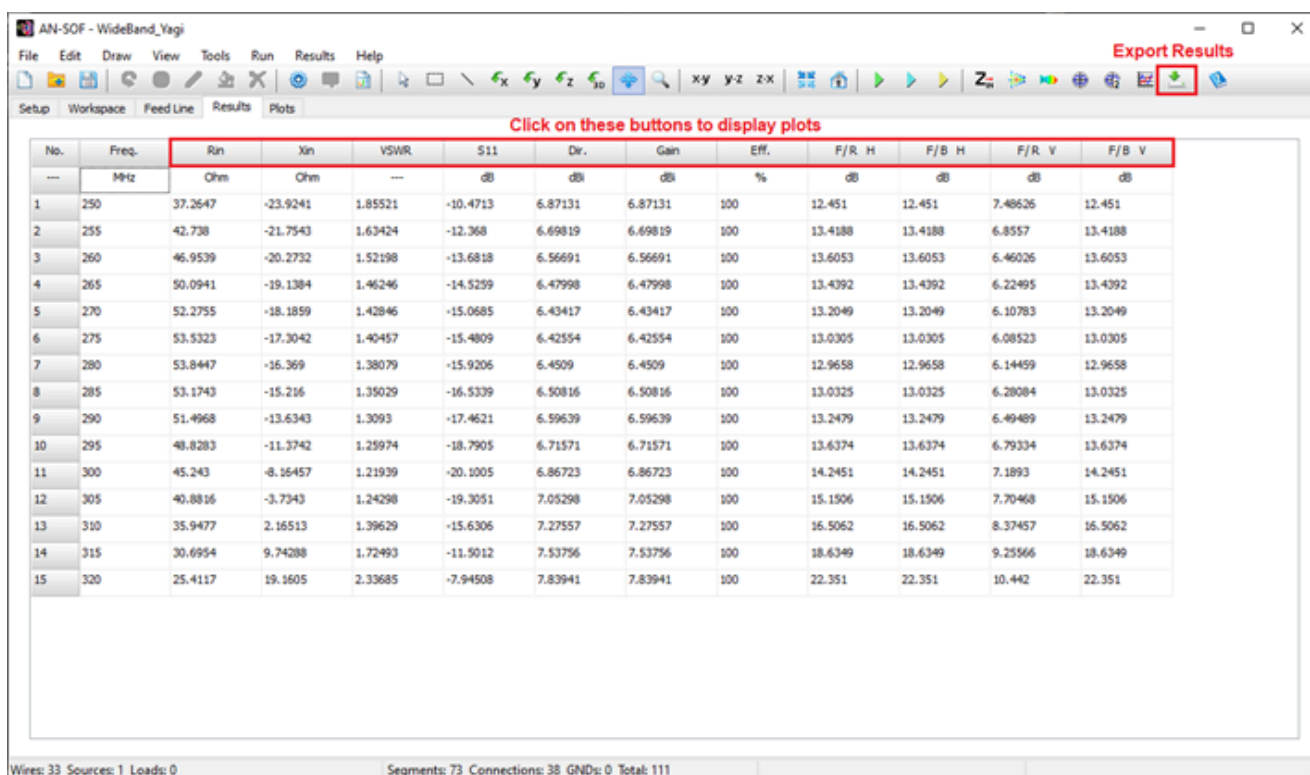

Fig. 1: "Results" tab in the main window. The "Export Results" button in the toolbar is highlighted.
In the AN-SOF main window, you will find a **Results** tab (see Fig. 1) that displays a table with the primary results for a transmitting antenna, including **Input Impedance** ( $R_{in} + j X_{in}$ ), **VSWR**,  **$S_{11}$** , **Directivity**, **Gain**, **Efficiency**, and the **Horizontal (H)** and **Vertical (V) Front-to-Rear (F/R)** and **Front-to-Back (F/B) Ratios**.
Select the **Plots** tab in the AN-SOF main window to visualize the plots of the main results for a **transmitting antenna** as a function of frequency, as shown in Fig. 1. These results are obtained from the table in the **Results** tab.